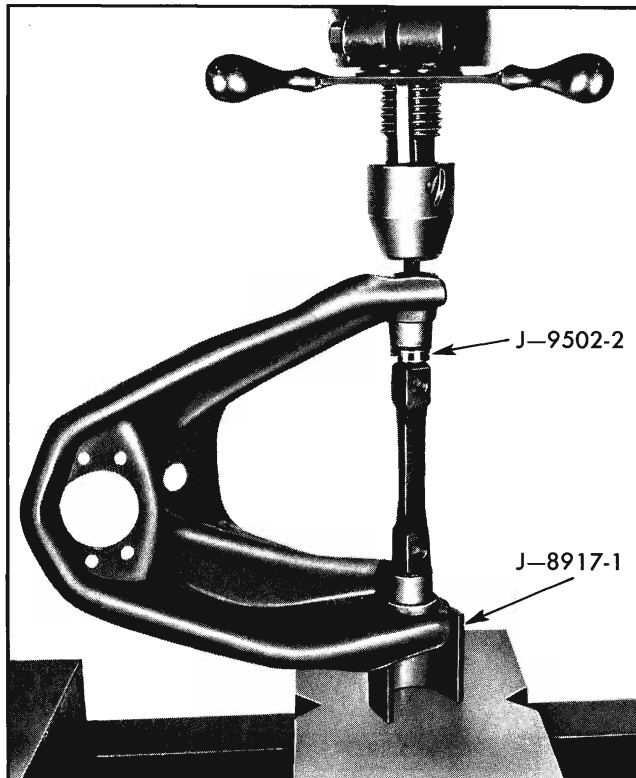

Fig. 3-22 Spacer J-9502-2 Installed
2. Support control arm, press on cross shaft and install spacer J-9502-2 (Fig. 3-22).